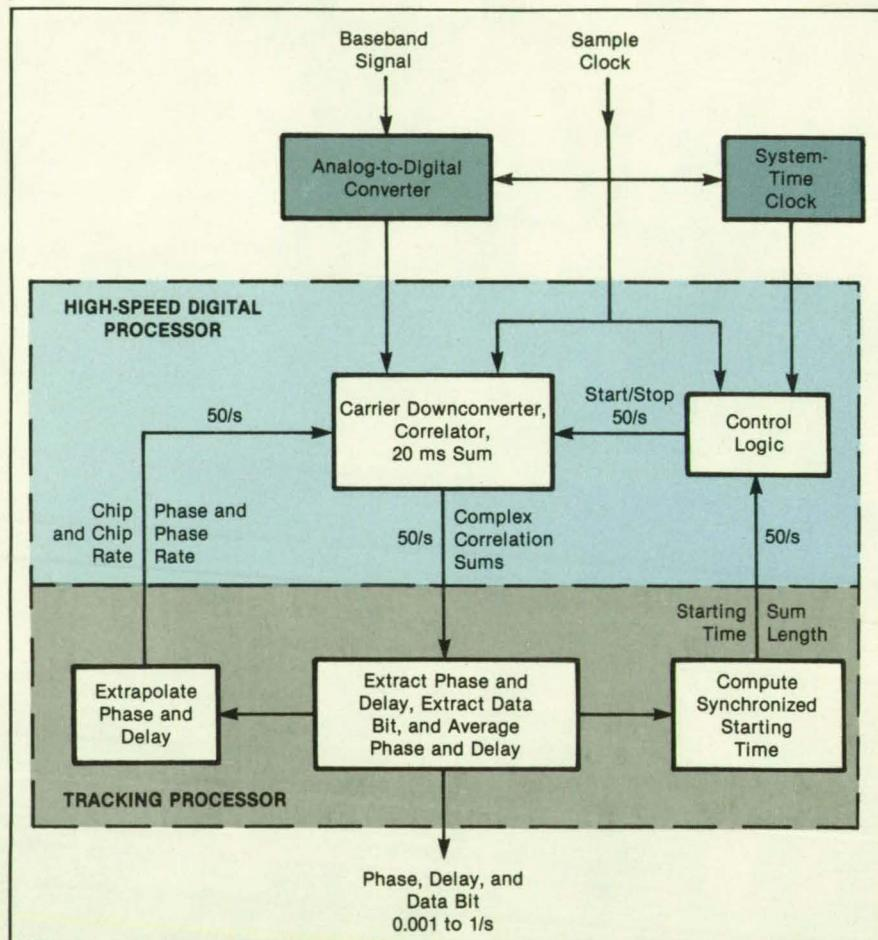

Figure 1. The Digital Baseband Processor in a GPS receiver recovers weak signals modulated by pseudorandom sequences.
The digital baseband processor in a GPS receiver (see Figure 1) consists of two major components: the tracking processor and the high-speed digital processor (see Figure 2). Control information sent by the tracking processor consists of the starting time, the sum interval length, the initial phase and phase rate, and the initial delay and delay rate. Based on this input, the high-speed digital processor accepts input data sampled at 1.5 to 2 MHz for the C/A channel and 15 to 20 MHz for the P channel and counterrotates the carrier, cross-correlates with the pseudorandom code, and accumulates the result over a nominal 20-ms interval.
**Figure 1.** A Digital Filter in the Spatial-Frequency Domain is derived from the afflicted observer's normalized contrast-sensitivity function (NCSF) and used to enhance the spatial frequencies that appear less visible.
The digital compensating filter derived from the NCSF is implemented as a transfer function that multiplies a fast Fourier transform of the scene in spatial-frequency space (see Figure 1). The individualized compensation filter that is marketed will be filtering in the spatial domain for fast, inexpensive image enhancement. The compensating filter includes a gain term that controls the compromise between enhancement of resolution and rejection of noise. The fast Fourier transform is then inverted, and the contrast of the resulting processed image (see Figure 2) is adjusted to prevent clipping at the bright and dark extremes of the scene.